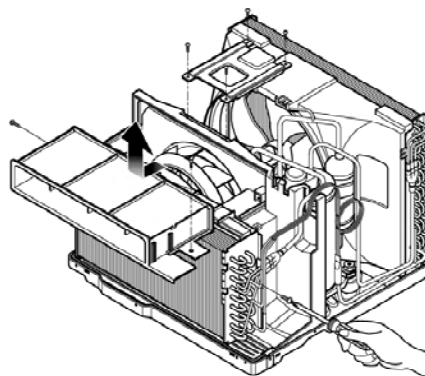

Figure 16
7. Remove the air guide upper.(See Figure 16)